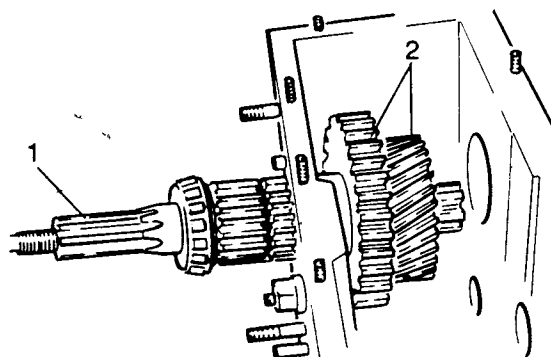

Fig H2.21
(12) Refer to Fig H2.21. Remove the output shaft (1) by sliding it backwards and the gears (2) forward into the casing.